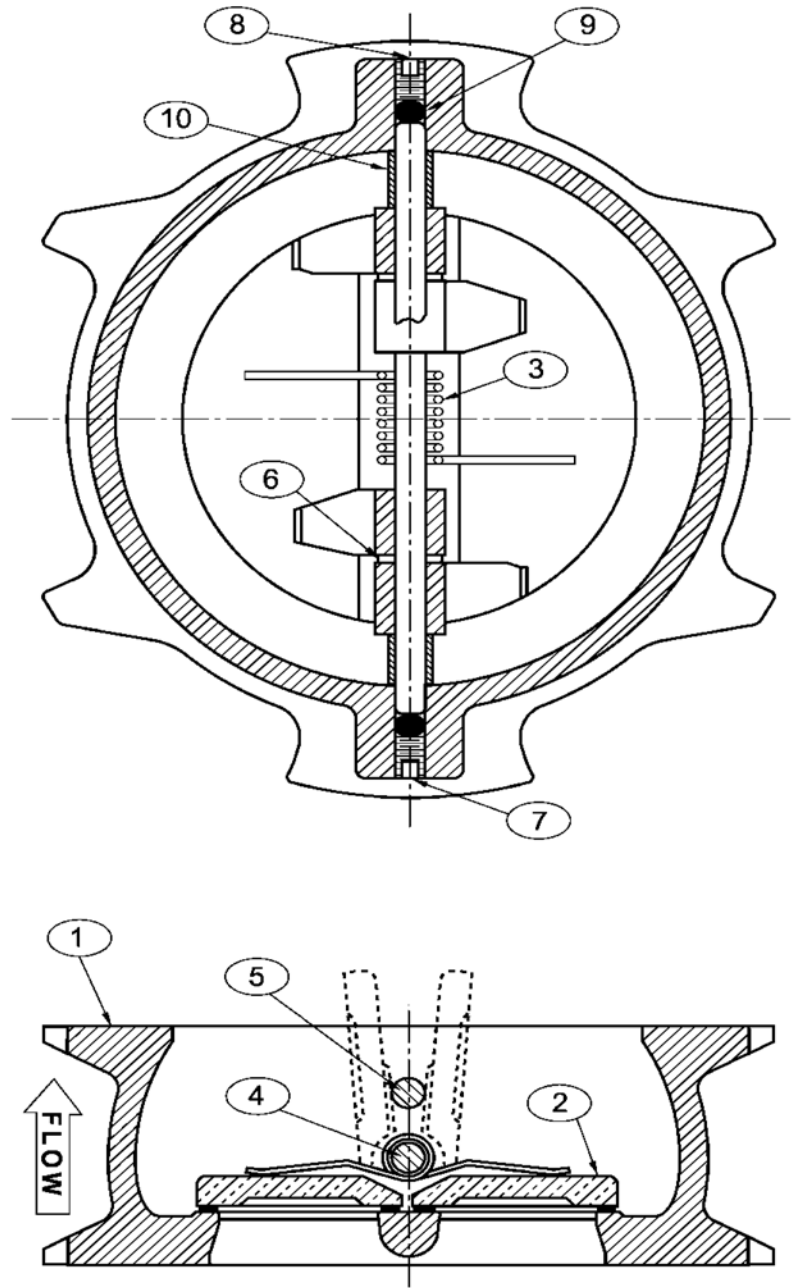

FIGURE 3. CHECK VALVE COMPONENTS
The standard check valve body (1) is constructed of ductile iron. The discs (2) are bronze and the remaining metal components are type 316 stainless steel. The discs and torsion spring (3) are the only moving parts and require no maintenance or lubrication. The general details of construction are illustrated in Figure 3 and identified in Table 2.
The valve should be removed from the pipeline for disassembly. All work on the valve should be performed by a skilled mechanic with proper tools. Refer to Figure 3.